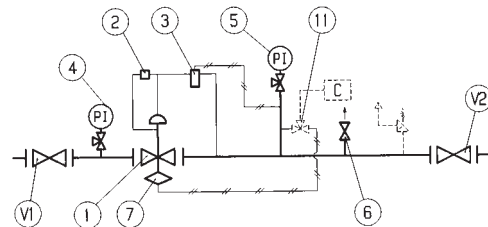

Fig. 22
5.4 MESSA IN SERVIZIO REGOLATORE APERFLUX 851 CON VALVOLA DI BLOCCO SB/82 INCORPORATA (FIG.22)
5.4 COMMISSIONING THE REGULATOR APERFLUX 851 WITH INCORPORATED SB/82 SLAM-SHUT (FIG. 22)
5.4 INBETRIEB. DES REGLERS APERFLUX 851 MIT SICHERHEITSABSPERR-INT. SPERR-VENTIL SB/82 (FIG. 22)
5.4 MISE EN SERVICE DU DÉTENDEUR APERFLUX 851 AVEC VANNE DE SÉCURITÉ SB/82 INCORPORÉE (FIG. 22)
5.4 PUESTA EN SERVICIO DEL REGULADOR APERFLUX 851 CON VÁLVULA DE BLOQUEO SB/82 INCORPORADA (FIG. 22)
5.4 ATIVAÇÃO COM REGULADOR APERFLUX 851 E VÁLVULA SEGURANÇA INCORPORADA SB/82 (FIG. 22)